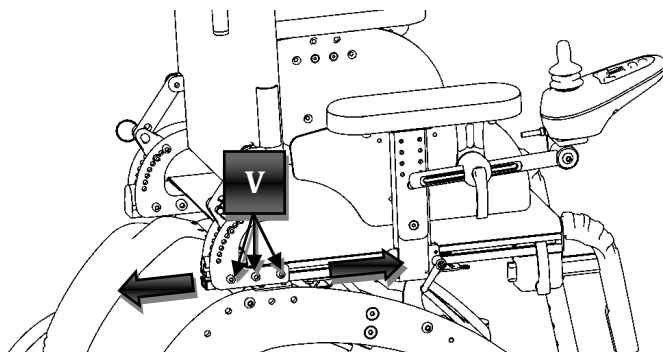

Figure 14
Seeing Figure 14 loosen the screws (V), move the backrest to the desired position and tighten the screws again.